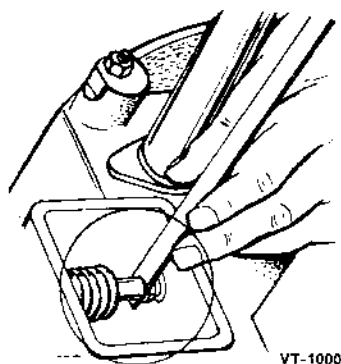

FIGURE 24. VALVE CLEARANCE
5. Clearances are given in *Specifications section*. For each valve, the gauge should just pass between the valve stem and valve tappet (Figure 24).